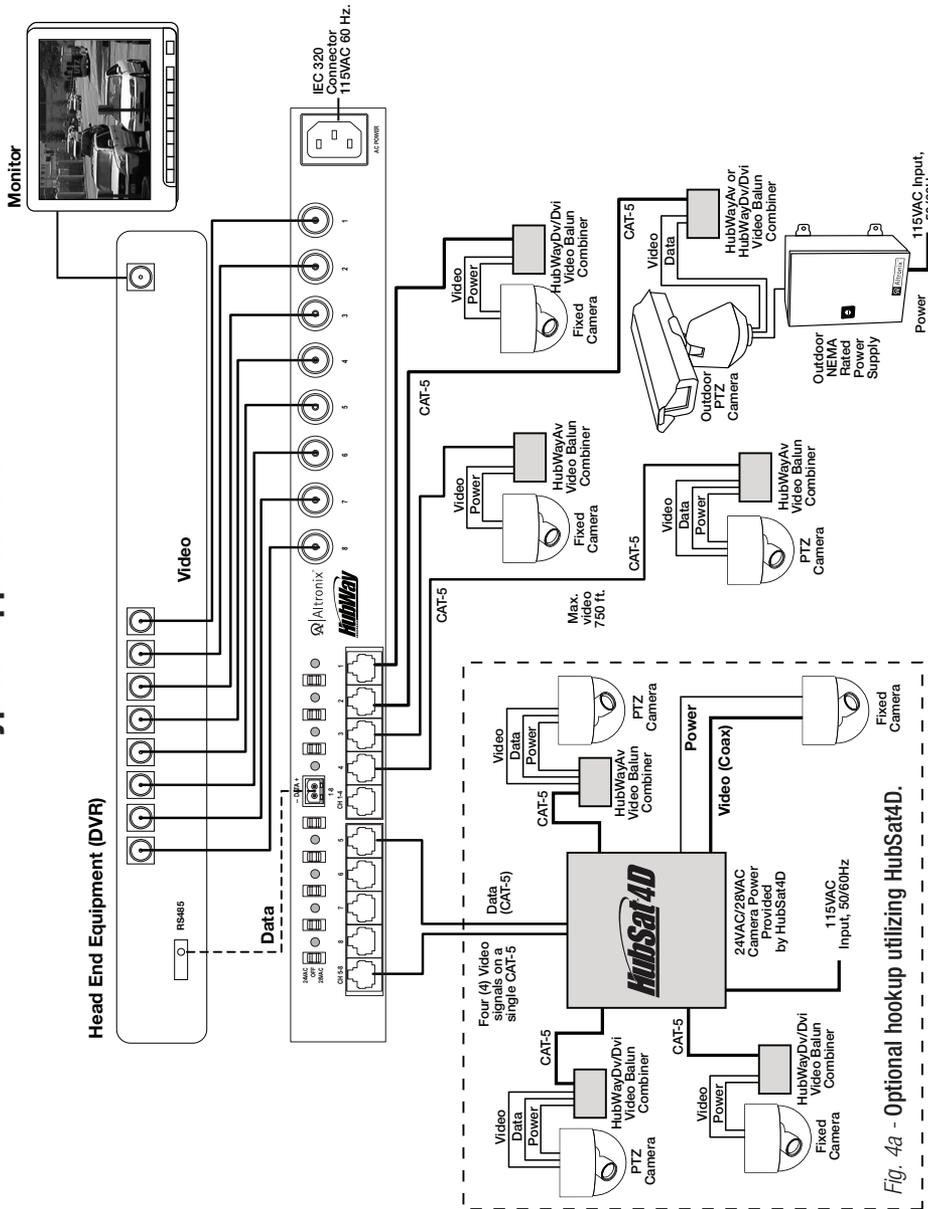

Fig. 4a - Optional hookup utilizing HubSat4D.
**Note:** When a particular camera exceeds the maximum distance for power transmission, a local external power source is required. Optionally, an Altronix HubSat Passive UTP Transceiver Hub with Integral Camera Power unit may be utilized (Fig. 4a, pg. 6). The combined total cable distance must not exceed 750 ft. for video transmission between the HubWay8CDS and each camera routed through the HubSat4D unit.